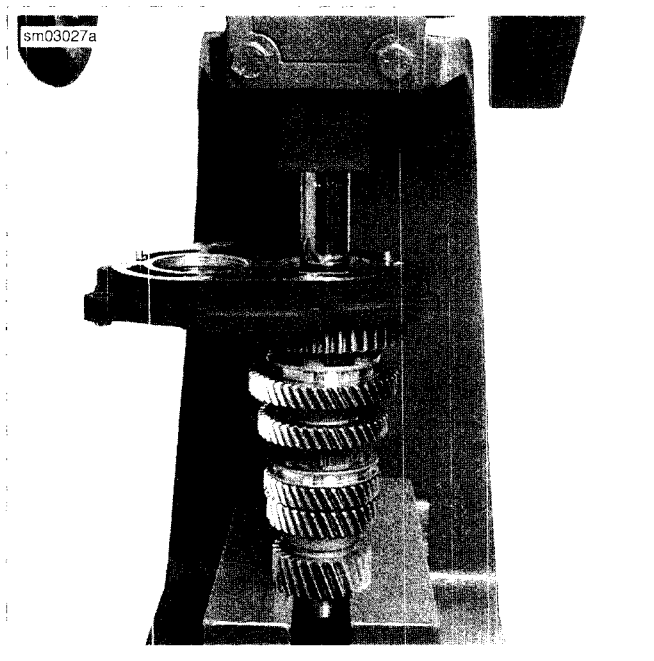

Figure 6-25. Installing Countershaft
- See Figure 6-25. Place countershaft in an arbor press supporting countershaft 6th gear. Using a suitable socket, press on inner bearing race until side door bearing contacts countershaft 1st gear washer.